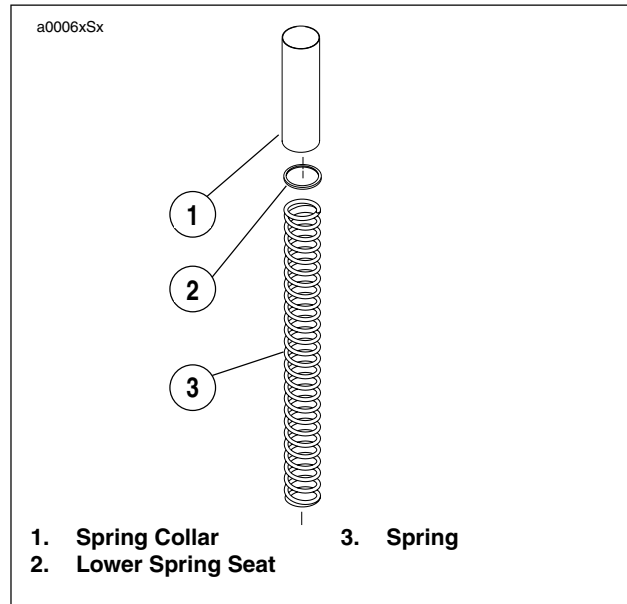

Figure 2-61. Removing Sub-Assembly
5. See Figure 2-61. Remove the spring collar, lower spring seat and spring from slider tube.